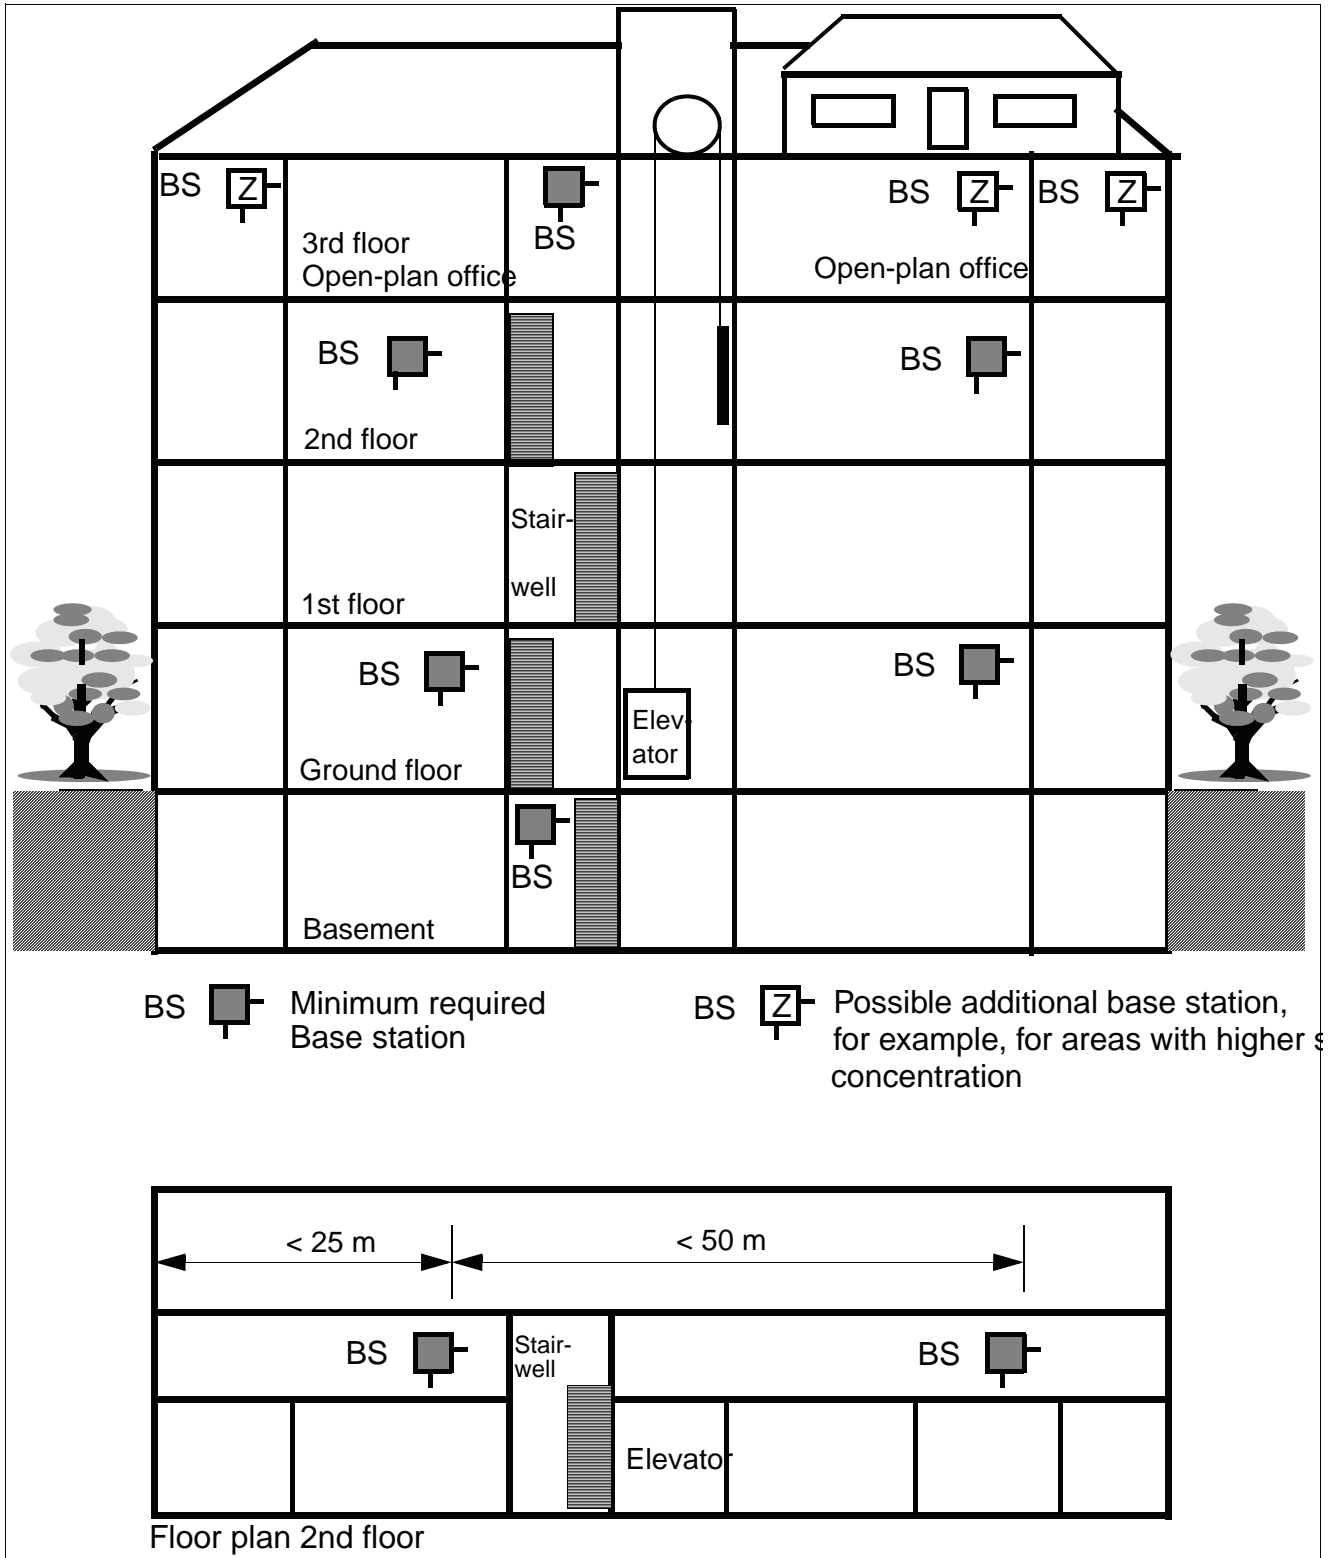

Figure 10 Base station distribution in interiors of brick and light construction materials
- For interiors of brick or light construction materials (Figure 10)
- If additional base stations are needed because of a large number of mobile telephones, see Figure 10.
- Within halls or open-plan offices (Figure 10)